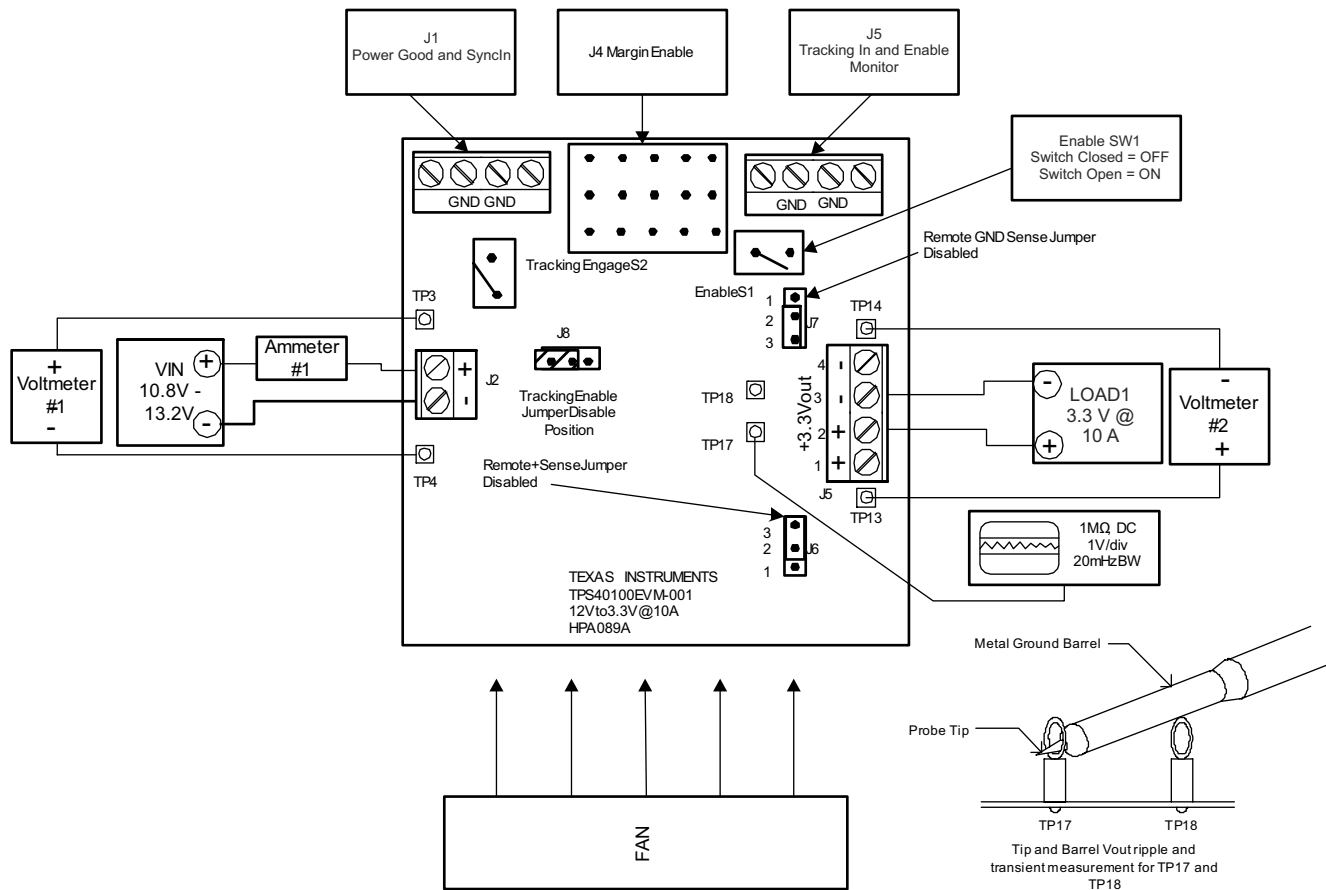
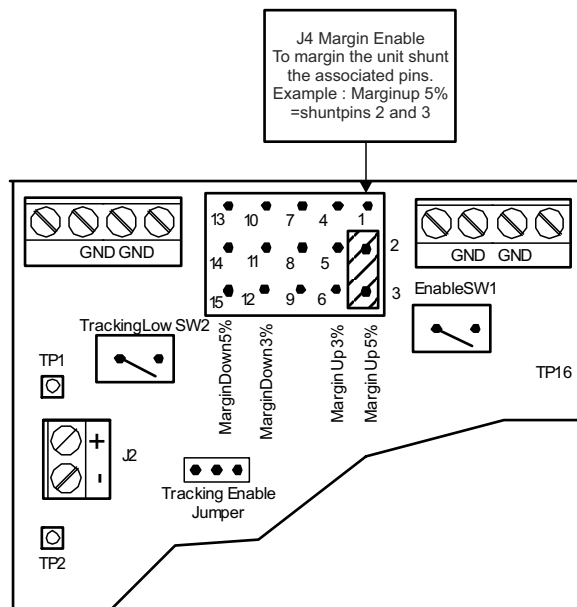

Figure 5-2. TPS40100EVM-001 Recommended Test Setup
Figure 5-10. TPS40100EVM-001 Margin Test Setup
The input voltage source (V_{IN}) should be a 0-V to 15-V variable DC source capable of 5 A_{DC}. Connect VIN to J2 as shown in Figure 5-2.
Figure 5-2 is the basic test setup recommended for evaluating the TPS40100EVM-001. The EVM is shipped with the following in the default position:
2. Prior to connecting the DC input source, VIN, it is advisable to limit the source current to 5.0 A maximum. Make sure VIN is initially set to 0 V and connected as shown in Figure 5-2.
8. Place a fan as shown in Figure 5-2 and turn it on, making sure air is flowing across the EVM.
To begin testing, set up the EVM according to Figure 5-2. Choose the desired margin level. Connector J4 pins 3, 6, 12, and 15 are designated pins that can be connected to adjacent VIN pins (2, 5, 11, and 14) of J4 to enable the desired margin level. Please see Figure 5-10. For example, to margin the unit up 5%, connect a jumper across pins 2 and 3 of J4.